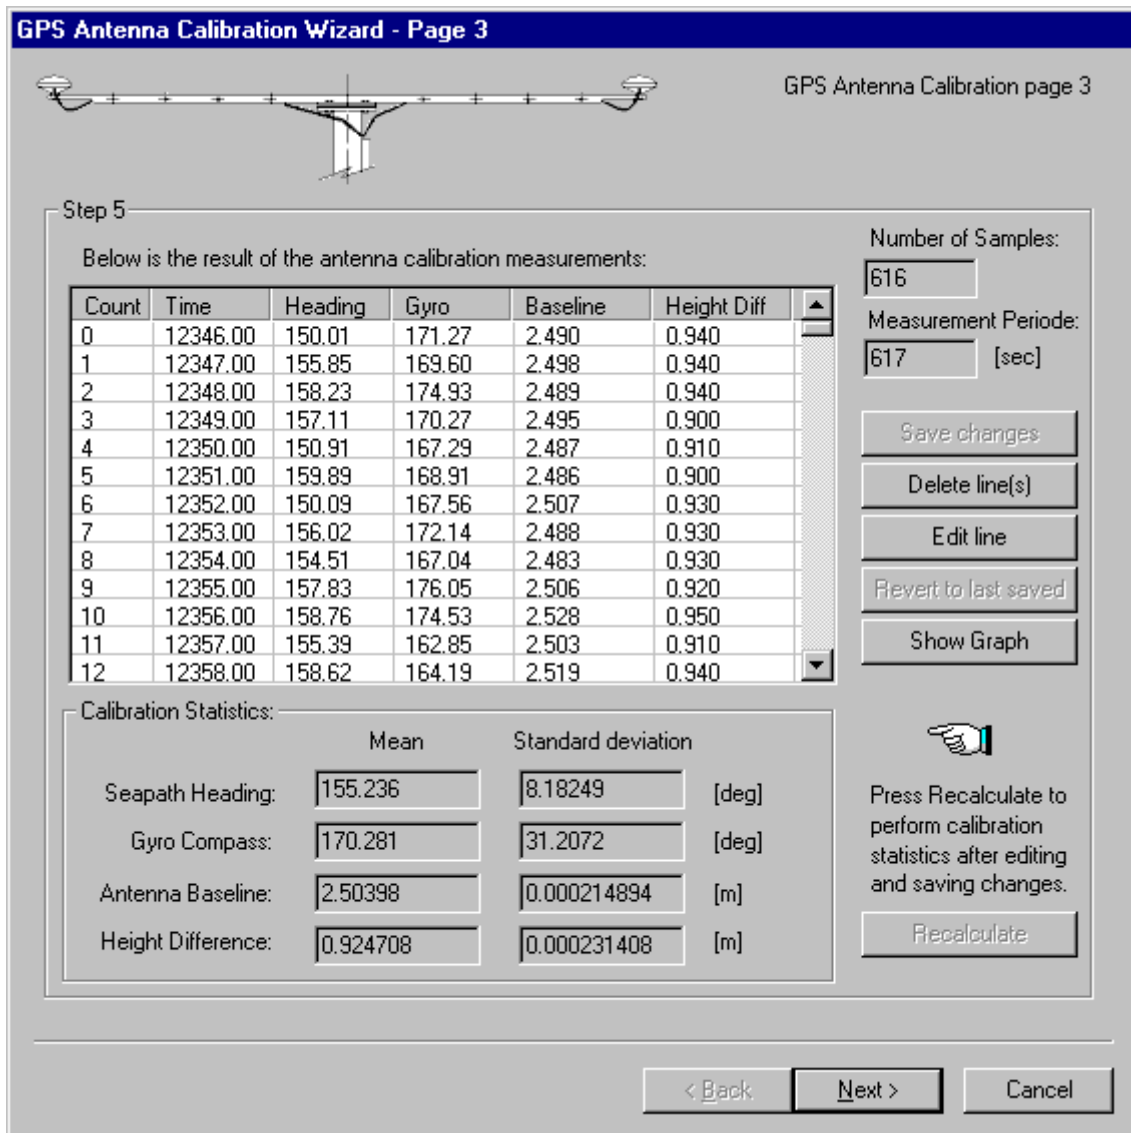

Figure 40 Page 3 of GPS Antenna Configuration
- Click the **Back** or **Cancel** button at any time if you want to stop the calibration process, see the window in Figure 40. Accept to stop the calibration by clicking **Yes** or click **No** to continue.